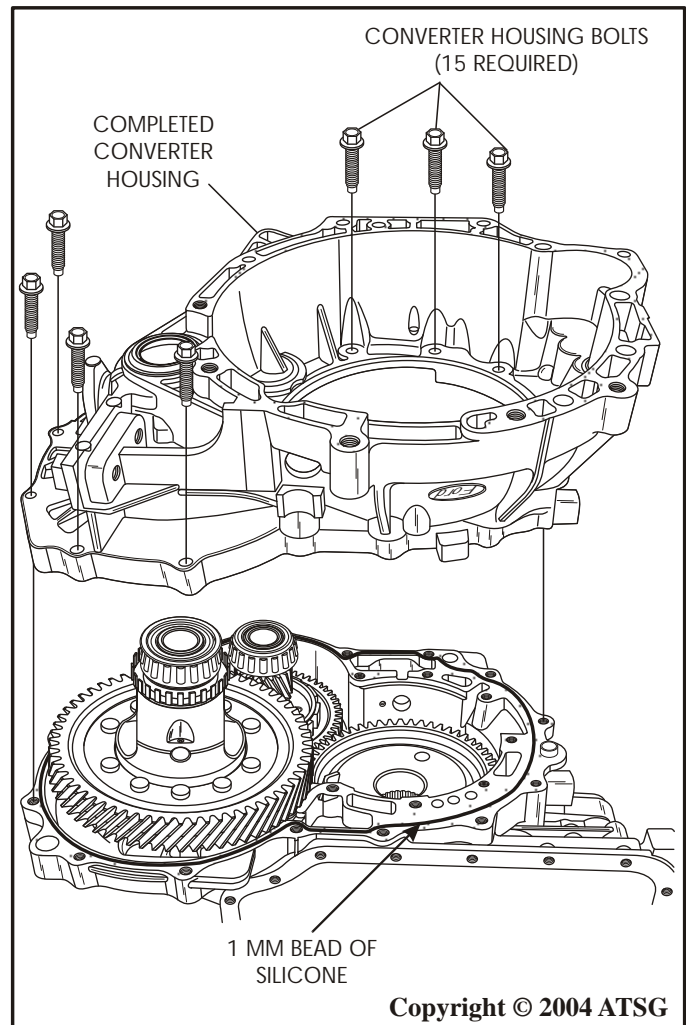

Figure 148
70. Apply a one-millimeter (1 mm) thick bead of Ultra Silicone Sealant (or equivalent) on the transaxle case sealing area for the converter housing, as shown in Figure 148.
71. Install the completed converter housing on the transaxle case, as shown in Figure 148, and ensure it is over alignment dowels.